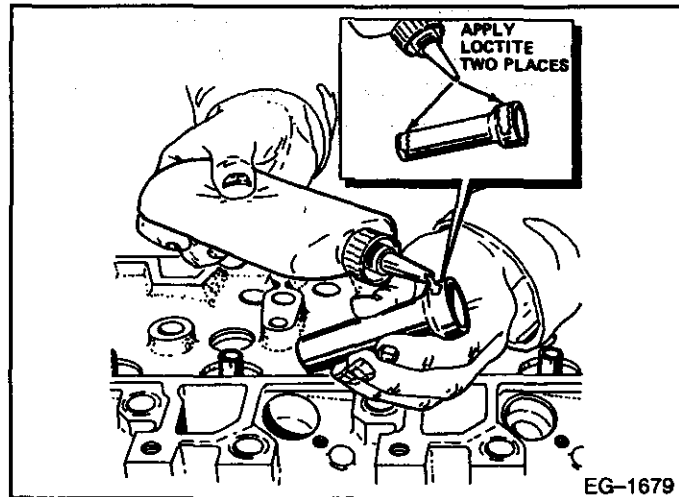

FIGURE 7-25
5. Apply Loctite® 262 or equivalent to the nozzle liner contact points (2 places). Refer to **FIGURE 7-25**.